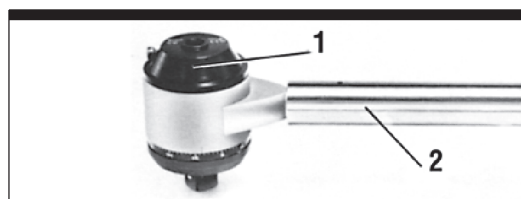

Figure 1.
4. When positioning the torque multiplier, be sure socket attached to the output is positioned so that the reaction anchor (Fig. 1, Item 2) is at right angles to the fastener. REMEMBER: Torque reaction creates a rotational force in the opposite direction from which input force is applied.
1. Model (Fig. 1) uses a planetary geared action to tighten and loosen nuts, bolts and cap screws with a continuous 360° rotation in either clockwise or counter-clockwise direction. Input and output rotation direction are the same. (EXAMPLE: Input clockwise, output clockwise.) An internal, two-directional anti-backlash device holds torque in both directions, clockwise or counter-clockwise.